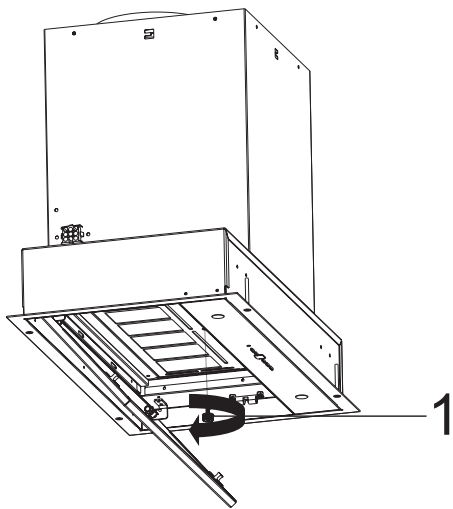

Fig. 7
5. ➤ Remove the connection screw of the carbon filter (Fig. 7) by turning in the direction of the arrow.